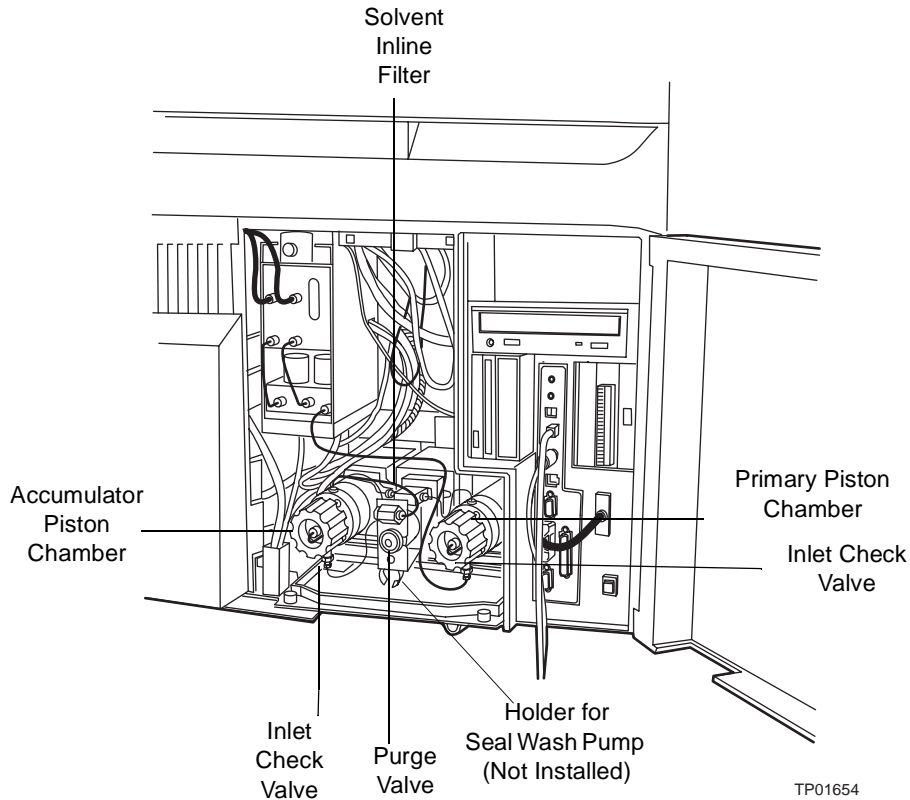

Figure 4-20 Solvent Management System Components
5. Open the solvent compartment door. Place absorbent tissue under the purge valve, and then turn the purge valve one turn, counterclockwise, to open it (Figure 4-20).